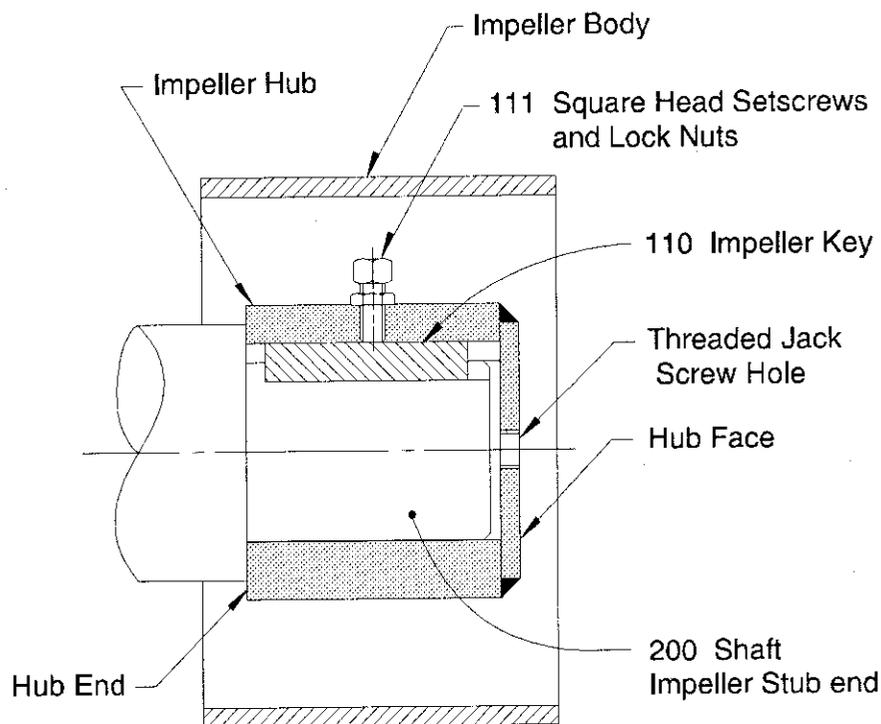
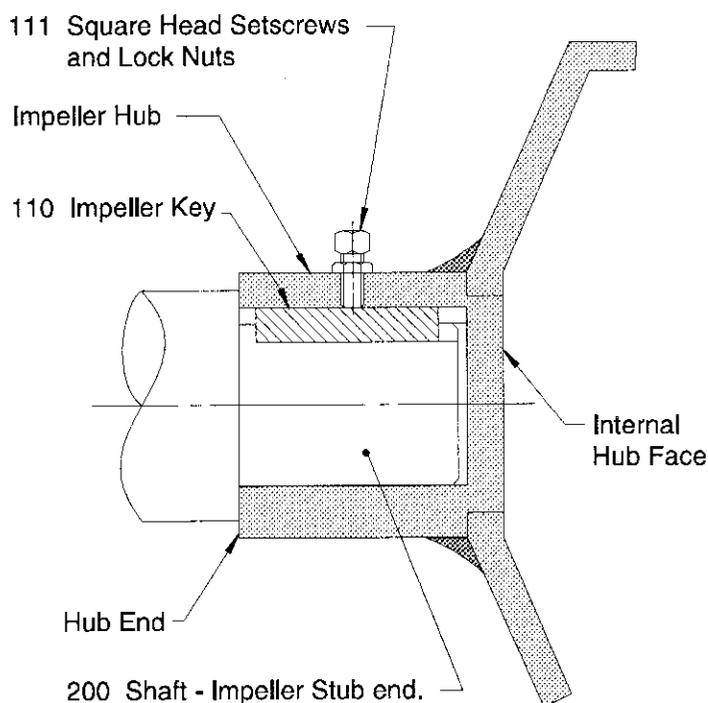

Figure 9: Impeller Hub Attachment - Open Body Design
Figure 13: Impeller Hub Attachment - Closed-Body Design
Unless otherwise specified in the equipment certification package, the impellers are typically manufactured with a slide fit onto the shaft end and held in place with a key (110), square head setscrews and locknuts (111). The quantity of setscrews varies according to the impeller diameter, *Figure 9, page 14 and Figure 13, page 18*.
1. Check to ensure that the stamped serial number marking on the impeller (typically found on the hub face, *Figure 9, page 14*) matches the same serial number shown on the equipment name plate on the agitator body.
1. Check to ensure that the stamped serial number marking on the impeller (typically found on the hub end, *Figure 13*) matches the same serial number shown on the equipment name plate on the agitator body.